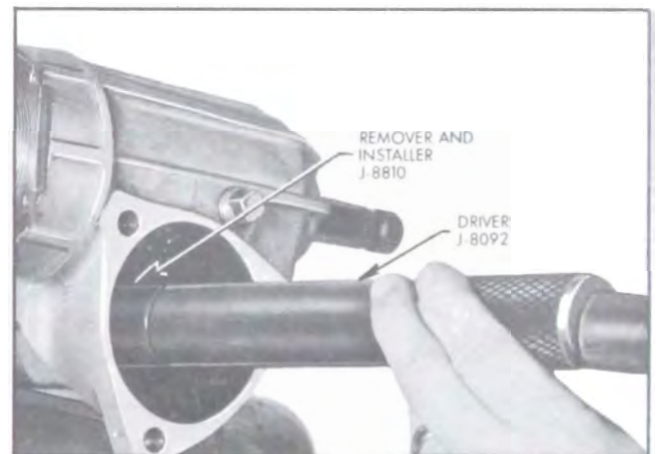

Figure 8-18—Installing Pitman Shaft Bushing
5. Inspect teeth of ball nut and pitman shaft for pitting or scoring which would require replacement of nut or pitman shaft. Inspect pitman shaft bushing for excessive wear or scoring. If necessary, remove pitman shaft bushing and install a new bushing with Remover and Replacer J-8810 and Drive Handle J-8092. See Figure 8-18.